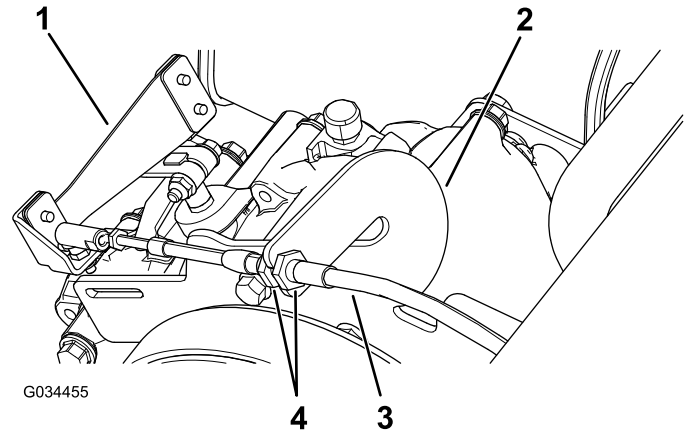

Figure 57
1. Loosen the jam nuts on the gear-shift cable and adjust them as necessary (Figure 57).
2. Test the gear-shift position by rotating the gear-shift selector to the 3 different positions and check to see if the shift lever (Figure 57) shifts properly when shifting the gears; refer to Gear-Shift Lever and Gear-Shift Indicator (page 12).